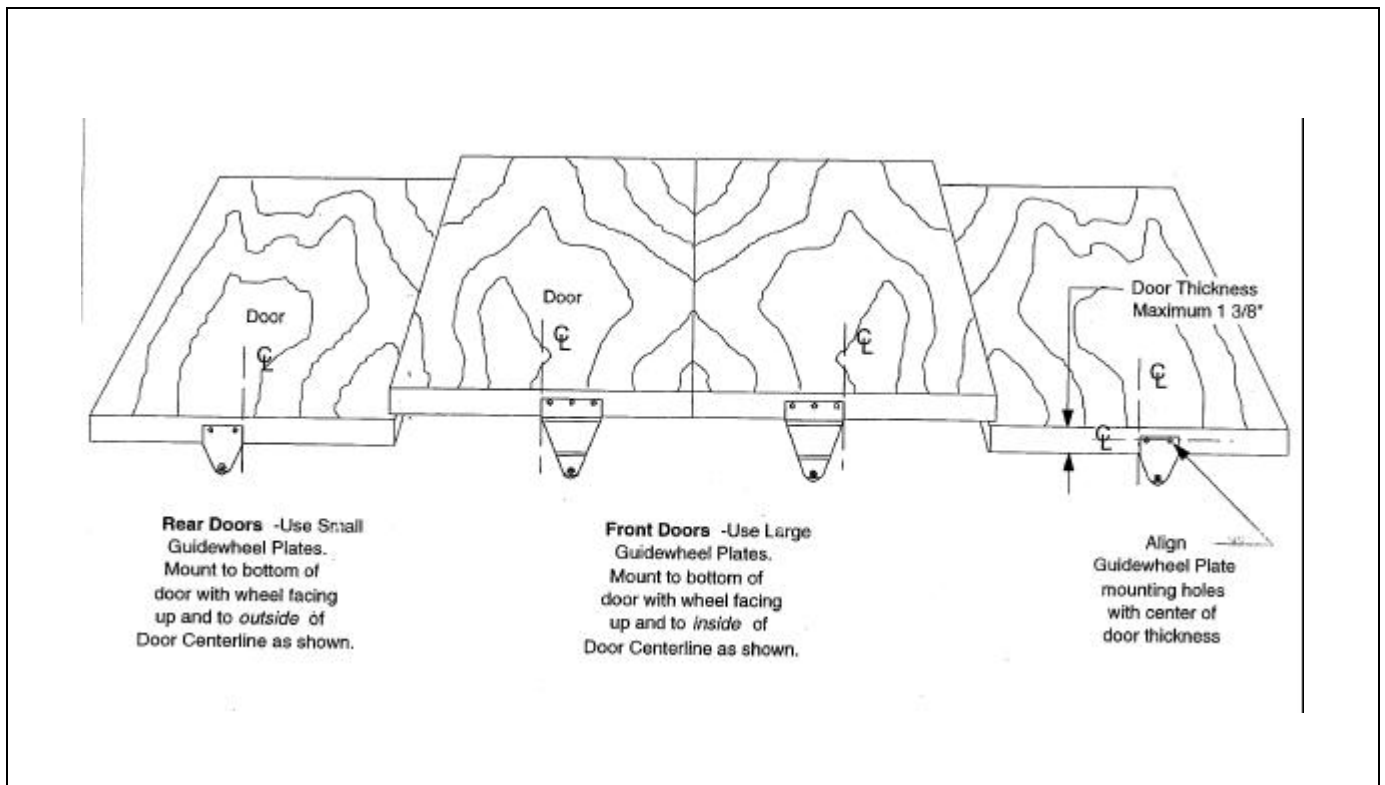

Figure 4
3. Mount the guidewheel plates to the bottom of the doors. (See Figure 4)